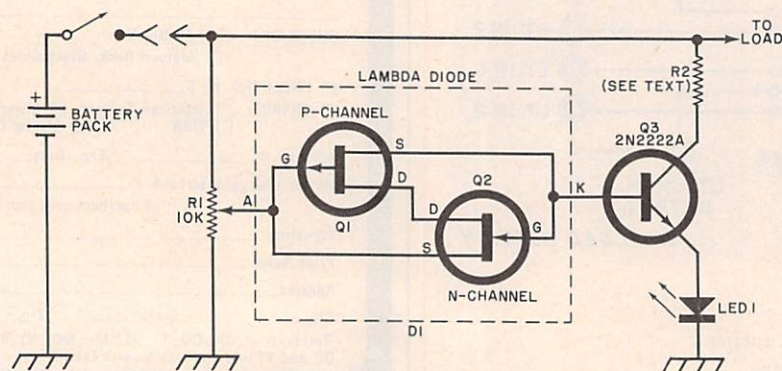

Fig. 1. Battery charger uses a lambda diode made of 2 FET's.
An eight-cell Ni-Cd battery pack, for example, would have a fully charged output potential of 10.0 volts. When nearly completely discharged, the battery would have an output of 8.4 volts. If the lambda-diode monitor circuit shown in Fig. 1 were set to trip at 8.4 volts, we have a useful state-of-charge monitor for a Ni-Cd battery system.
The two-terminal, negative-resistance lambda diode shown inside the dashed box in Fig. 1 consists of one each n- and p-channel FET's. (There is no "lambda" diode available commercially.) Note that in this configuration there are only two terminals, which can be labelled "anode" (A) and "cathode" (K).